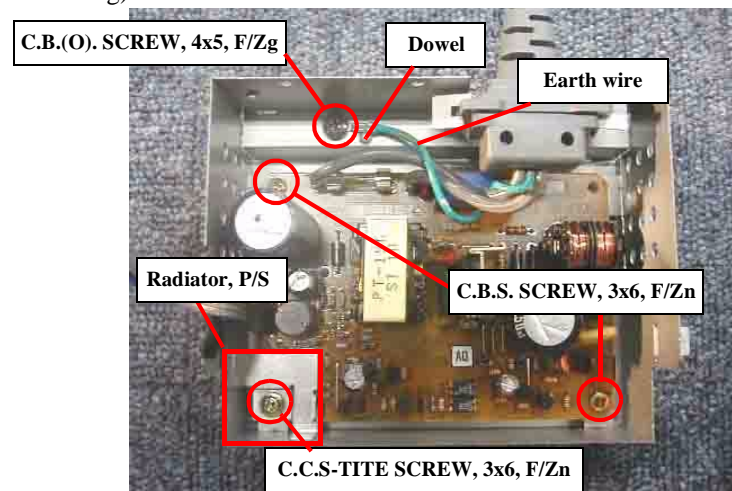

Figure 4-26. Power supply board removal
- Make sure to set the earth wire on the dowel of the Lower power supply board shield plate (Refer to Figure 4-26) (\* The product with 110V type AC cable does not have the earth line)